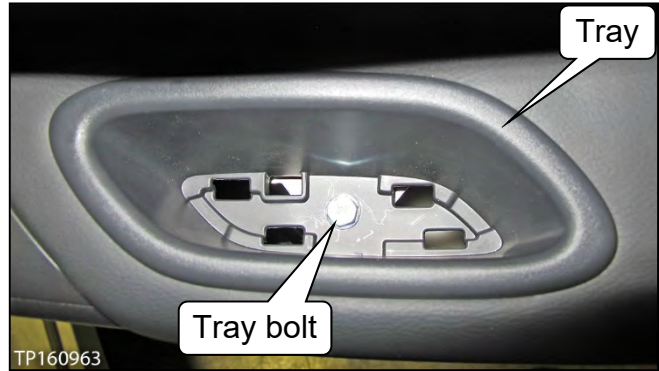

Figure 4
- 5. Remove the tray bolt (see Figure 4).